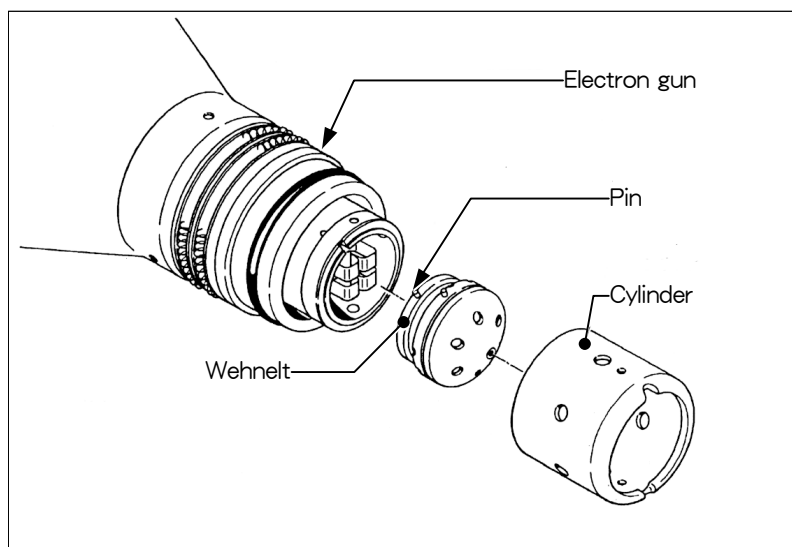

Fig. 6.11 Assembling the Wehnelt
1. Push the Wehnelt onto the electron gun while making sure that the pin on the Wehnelt meets the groove on the electron gun. Fasten it with the cylinder (Fig. 6.11).